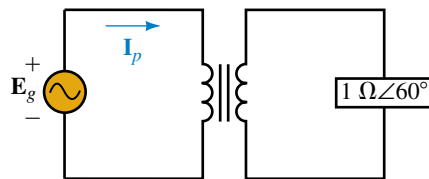

FIGURE 24–35
3. For Figure 24–35, if $\mathbf{I}_p = 30 \text{ mA} \angle -40^\circ$ and $\mathbf{E}_g = 240 \text{ V} \angle 20^\circ$, what is a ?